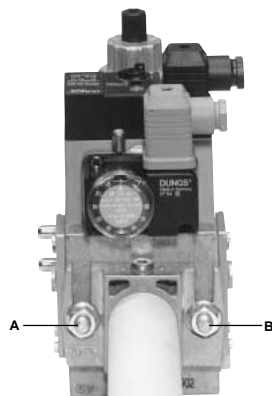
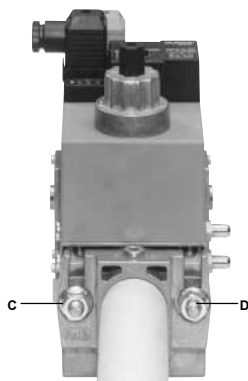

Fig. 5
Fig. 6
3. tighten screws A, B, C and D (Fig. 5 - Fig. 6), according to the mounting positions (Fig. 8);